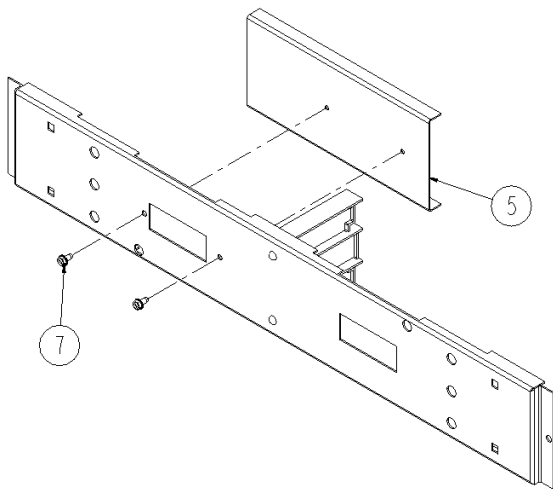

Figure 3. Mounting the space filler.
- 3. Install the space filler.** Mount the spacer plate [5] to the side without a TED6 breaker with TEDL, as shown in Figure 3. Units that are double branch mounted do not require a space filler. Align the holes on the spacer plate with the holes on the filler [1, 2] and secure with thread-rolling screws [7].